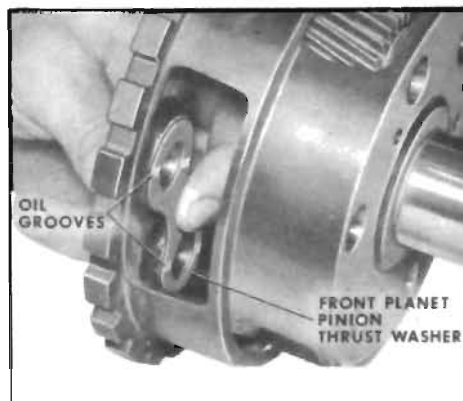

Figure 5-261
3. Install front planet pinion thrust washer. Retain thrust washer to case with grease. Oil grooves on the thrust washer must be toward the pinion gears. See Figure 5-261.